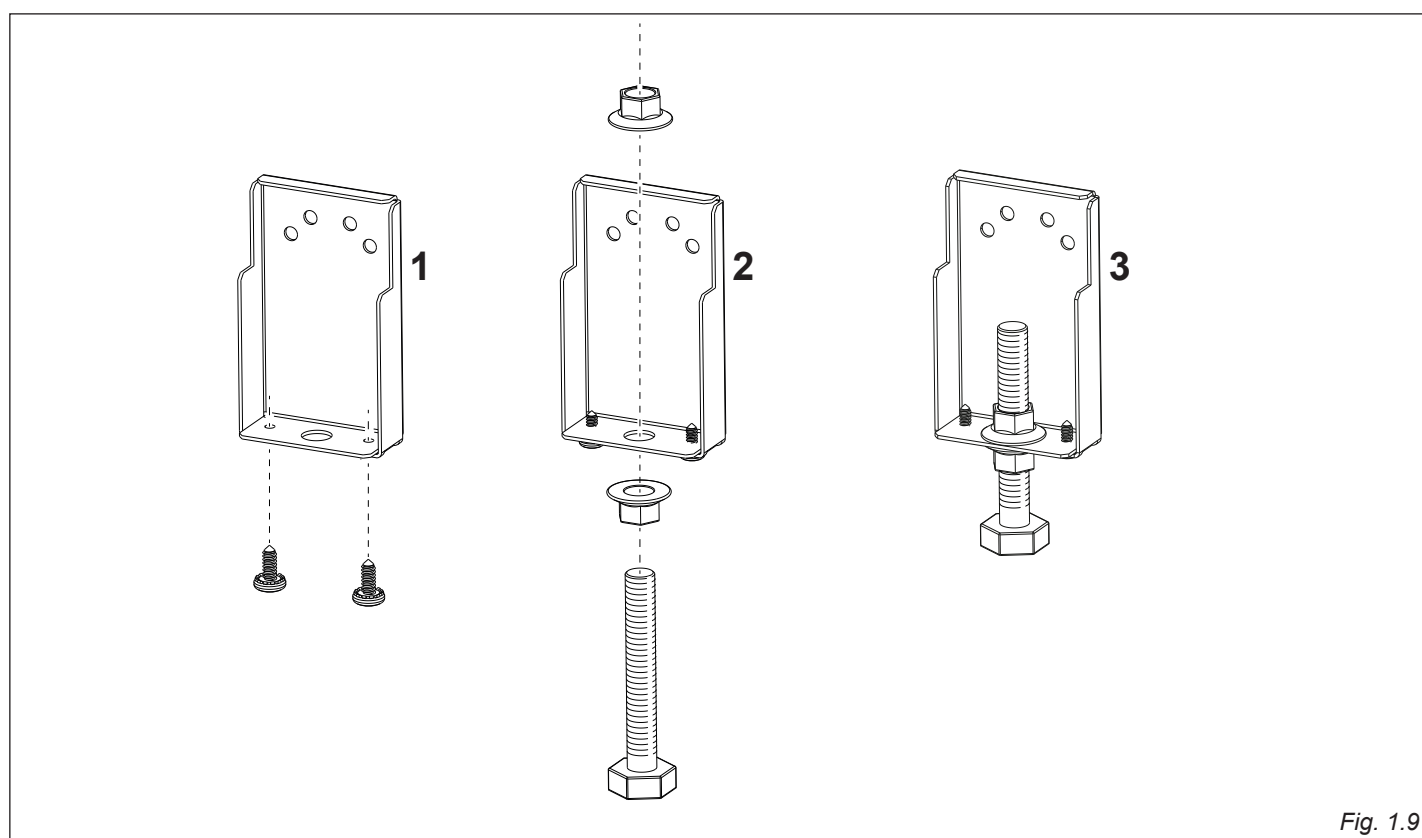

Fig. 1.9
The anti-tip bracket has two components (figs. 1.9, 1.11):
1. Fix the two supplied short screws to the left and right side of the anti-tip bracket (fig. 1.9).
2. Thread the bolt through the adjustable bracket and fix in place using the two supplied nuts (fig. 1.9). Ensure the nuts are well tightened.